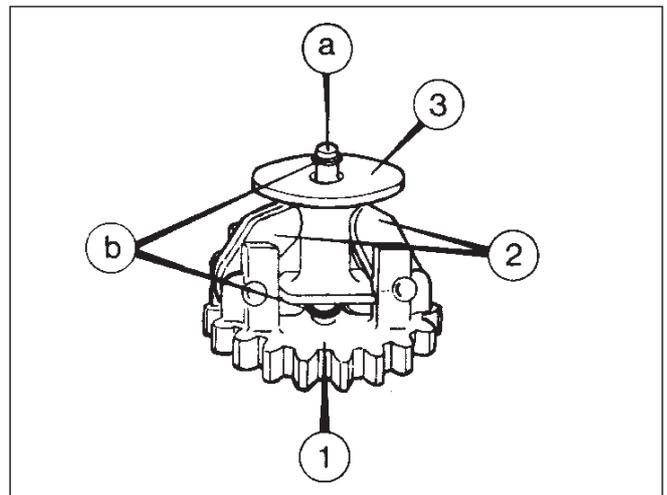

Fig. 33
**Standard Governor (Fig 33)**